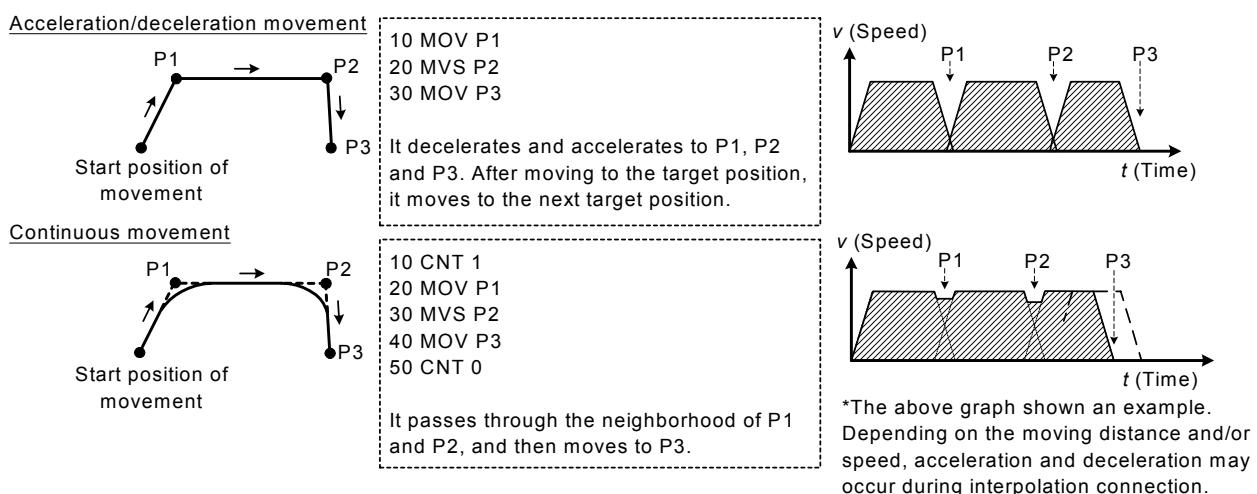

Fig.4-9:Acceleration/deceleration movement and continuous movement
- (1) The interpolation (40 step to 80 step of the example) surrounded by Cnt 1 - Cnt 0 is set as the target of continuous action.
- (2) The system default value is Cnt 0 (Acceleration/deceleration movement).
- (3) If values 1 and 2 are omitted, the connection with the next path segment is started from the time the deceleration is started.
- (4) As shown in Fig. 4-9, in the acceleration and deceleration operating mode, the speed is reduced in front of the target position. After moving to the target position, the speed for moving to the next target position starts to be accelerated. On the other hand, in the continuous operating mode, the speed is reduced in front of the target position, but it does not stop completely. The speed for moving to the next target position starts to be accelerated at that point. Therefore, it does not pass through each target position, but it passes through the neighborhood position.